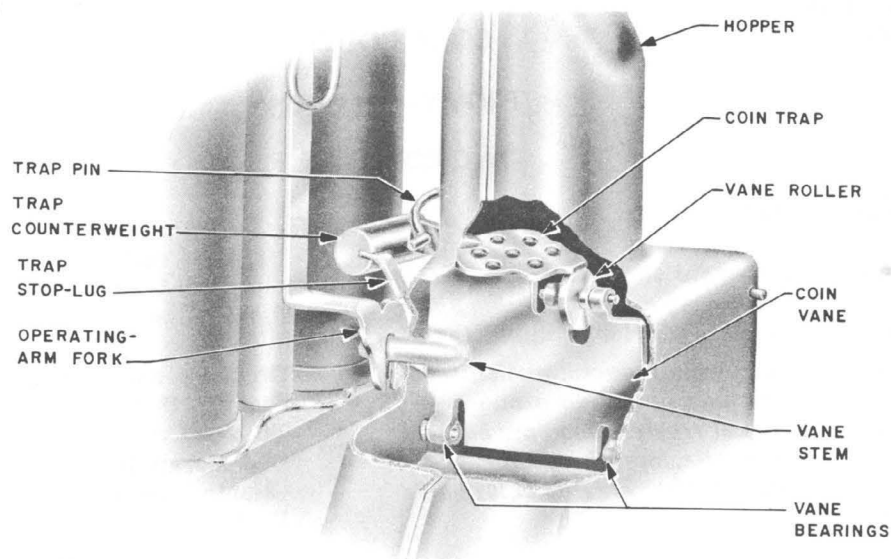

Fig. 2 — Hopper and Rear of Coin Relay
- (4) Check trap for catching on vane or on vane roller as follows:
- (5) Check clearance between trap and vane roller as follows:
- (b) Move vane to vertical position. If vane rubs on trap, adjust trap stop lug so that trap will just clear vane (Fig. 2).
- (c) With vane in vertical position, lift trap counterweight. Trap should not move more than a few degrees before touching vane roller. Adjust by bending stop lug. (See Fig. 2.)
- (6) Check operating arm fork and vane stem for roughness. Clean and lubricate as covered in 4.10. Also check operating stud. If stud is rough or roller type, replace relay.
- (7) Remount coin relay as covered in 4.11 and repeat trap and vane release test. If mechanism fails, replace relay.